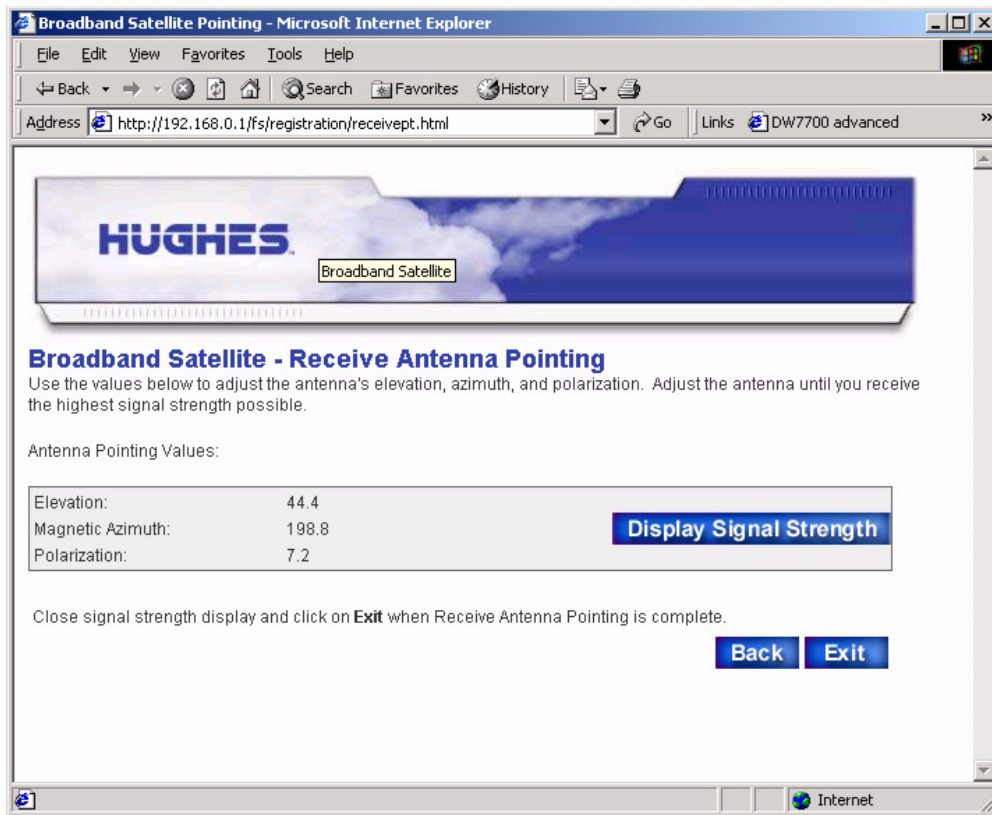

Figure 17: Receive pointing
- Click **Next**. The Receive Antenna Pointing screen appears as shown in Figure 17.